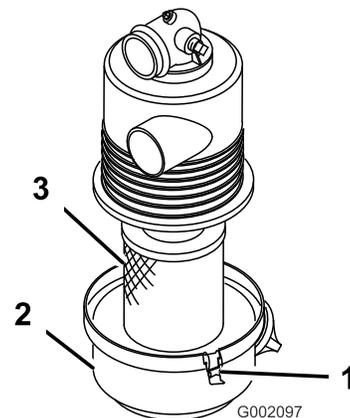

Figure 16
1. Check the air cleaner body for damage, which could possibly cause an air leak. Ensure the cover is sealing around the air cleaner body (Figure 16).
2. Release the latches securing the air-filter cover to the air-filter housing (Figure 16).
3. Separate the air-filter cover from the air-filter housing, and clean the inside of the cover (Figure 16).
3. Insert the air-filter element into air-filter housing (Figure 16).
4. Align the air-cleaner cover with the air-cleaner housing (Figure 16).
5. Secure the cover to the housing with the latches (Figure 16).